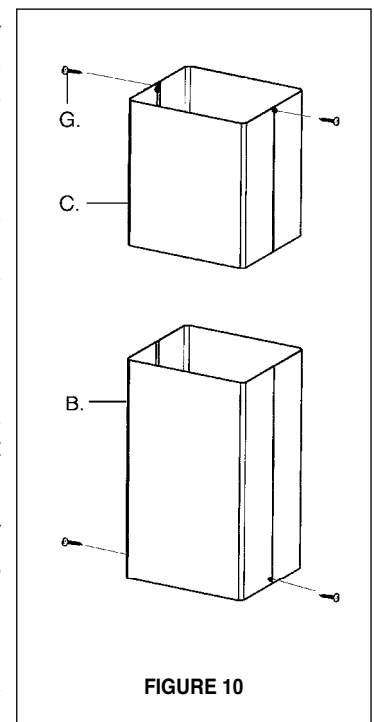

FIGURE 10
1. The UPPER CHIMNEY COVER (C in FIGURE 10) attaches using two screws provided (G in FIGURE 10). If using the **High Ceiling Chimney Kit**, use the UPPER CHIMNEY COVER supplied with the kit. Slide up and attach the UPPER CHIMNEY COVER.
3. The LOWER CHIMNEY COVER (B in FIGURE 10) attaches using two screws provided (G in FIGURE 10). Install the LOWER CHIMNEY COVER